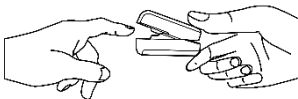

Figure 5 Put finger into the Oximeter
1. Open the clip and put finger inside the clip (make sure the finger is in the correct position), and then clip the finger, as shown in figure 5.